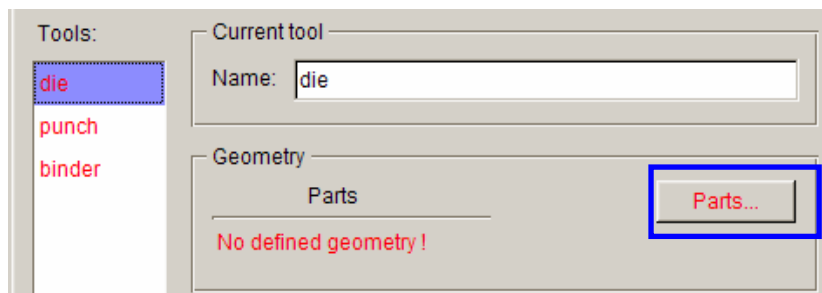
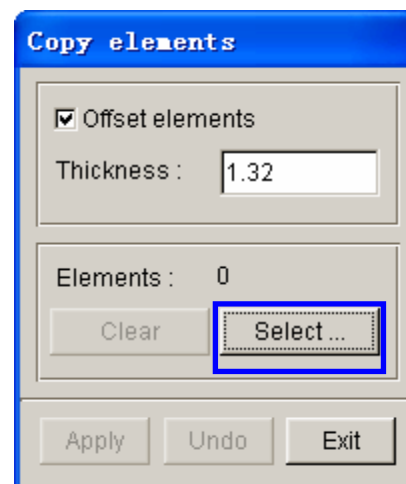

Figure 5.42 Before die definition
Figure 5.61 Copy elements dialog box
4. Press the **Parts...** button to assign a part as die. See Figure 5.42.
32. Click **Parts...** to display the DEFINE GEOMETRY dialog box illustrated in Figure 5.42. Then, press **Copy Elem...** button to display the COPY ELEMENTS dialog box illustrated in Figure 5.61.